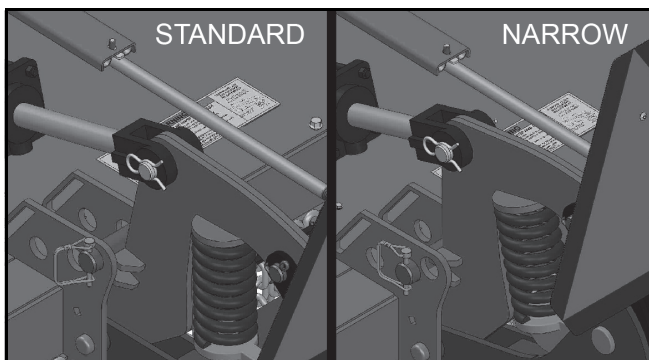

Figure 3. Transport Lock Pin in Standard & Narrow Width Positions
3. Lower cutter against stops and confirm cylinder length is 660mm long and maximum transport width is less than three meters (Figure 3).
2. Remove klik pin and lock pin from storage position (Figure 3).